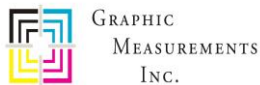

Fig. 39 – Underside of standard PH
5. Turn the PH upside down so that you can access the nose cone and camera window. See Fig. 39 for orientation of components on the underside.